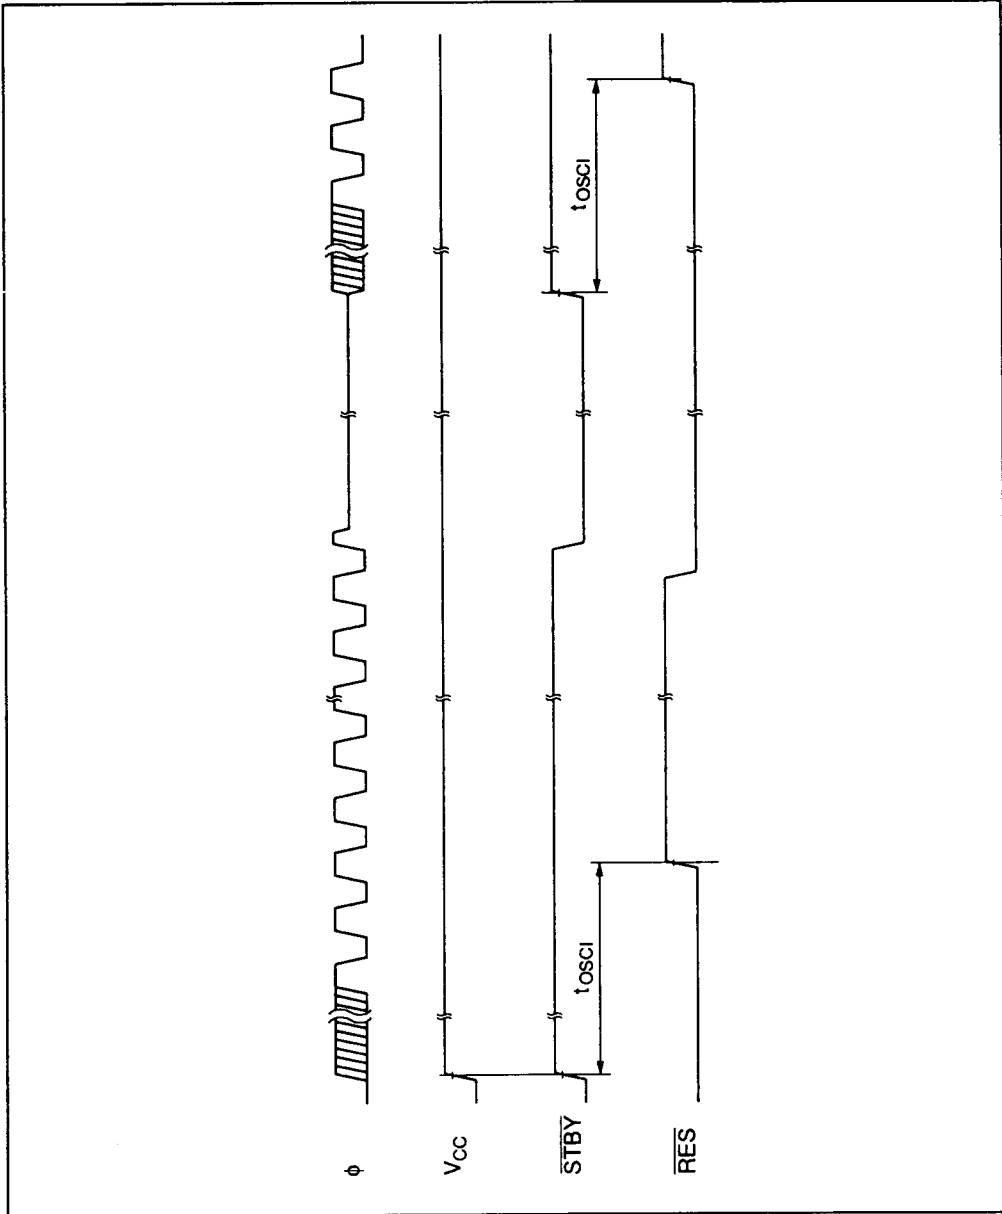

Figure 21-6 Clock Oscillator Settling Timing
21.3.2 Clock Oscillator Settling Time	Figure 21.6